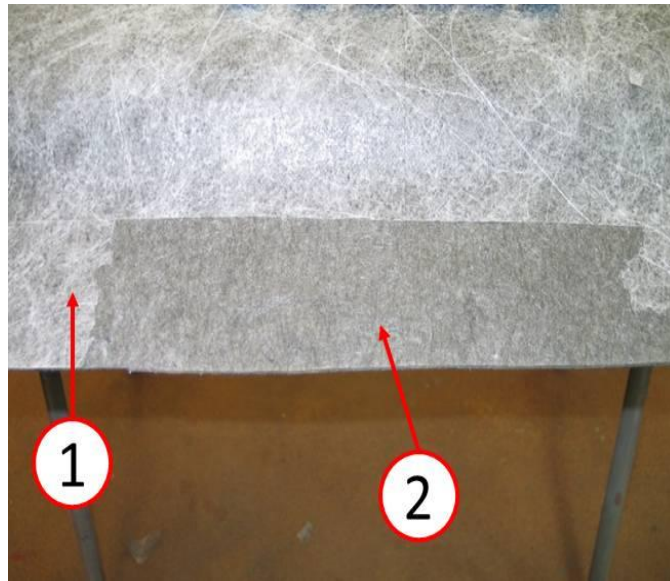

Fig. 2 Scrim Removal
4. Remove the white fiberglass scrim from the backside of the headliner where the dual lock fastener from the repair kit will be bonded (Fig. 2).